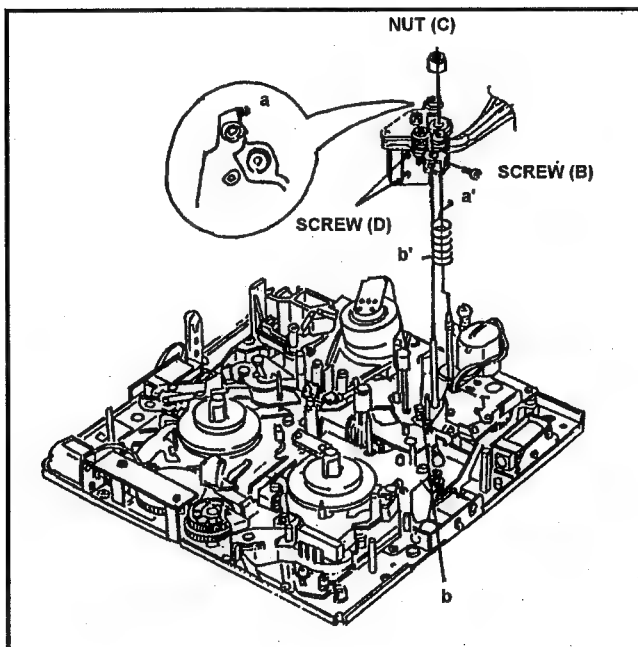

Fig. 6-2-1 Removal of A/C Head Unit
5. Loosen the hex screw (B) and remove the Nut (C). Hang off the Head Height Adjustment Spring and then remove the A/C Head Unit as shown in Fig. 6-2-1.
**Point:** Memorize the height of Nut (C) before removing the Nut (C).
7. Remove the Shield Cover by removing 2 screws (D) as shown in Fig. 6-2-1.